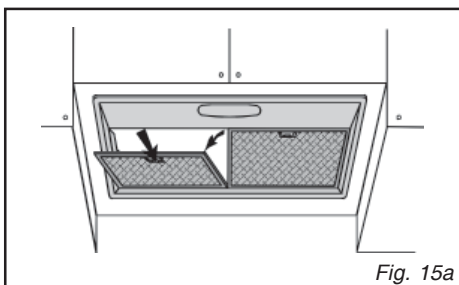

Fig. 15a
• Removing the grease filter (fig.15a-15b)